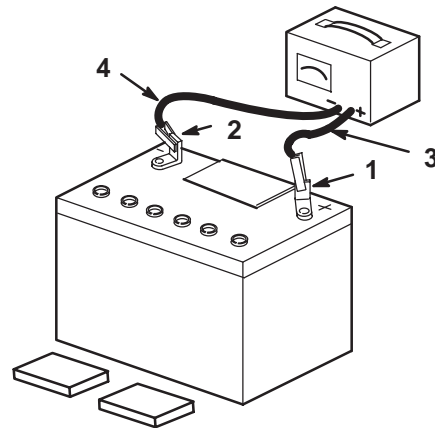

Figure 4
3. Leave the covers off and connect a 3 to 4 amp battery charger to the battery posts (Fig. 4). Charge the battery at a rate of 4 amperes or less for 4 hours (12 volts).
4. When the battery is fully charged, disconnect the charger from the electrical outlet then from the negative and positive battery posts (Fig. 4).